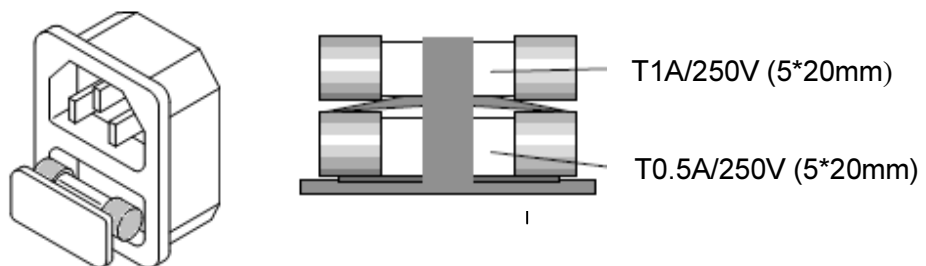

Fig 2-2 FUSE RECEPTACLE
- 2.3.2 The AC line fuse is located below the AC line socket (see Fig 2-2). Use A small screwdriver to remove the fuse holder. Replace the failed fuse With the appropriate type and rating according to your mains voltage. (See Table 1-2)